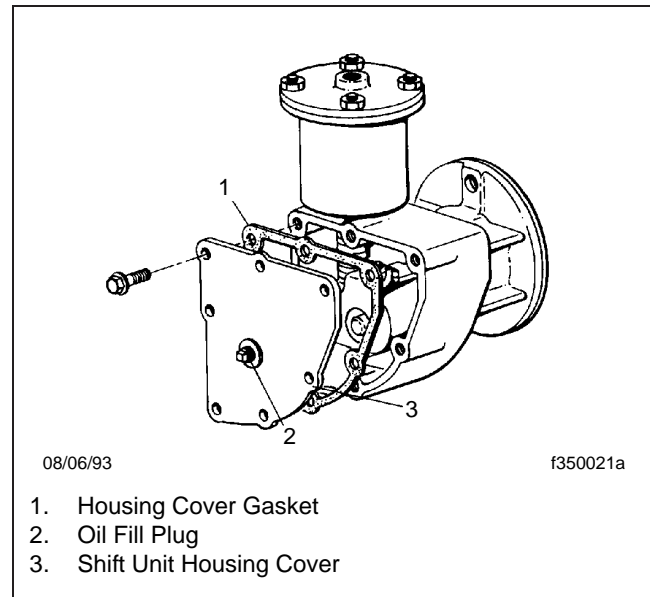

Fig. 3, Two-Speed-Axle Shift Unit
1. Clean the shift unit oil fill plug, and the area surrounding the plug. See **Fig. 3**. Turn the fill plug in a counterclockwise motion and remove the plug.